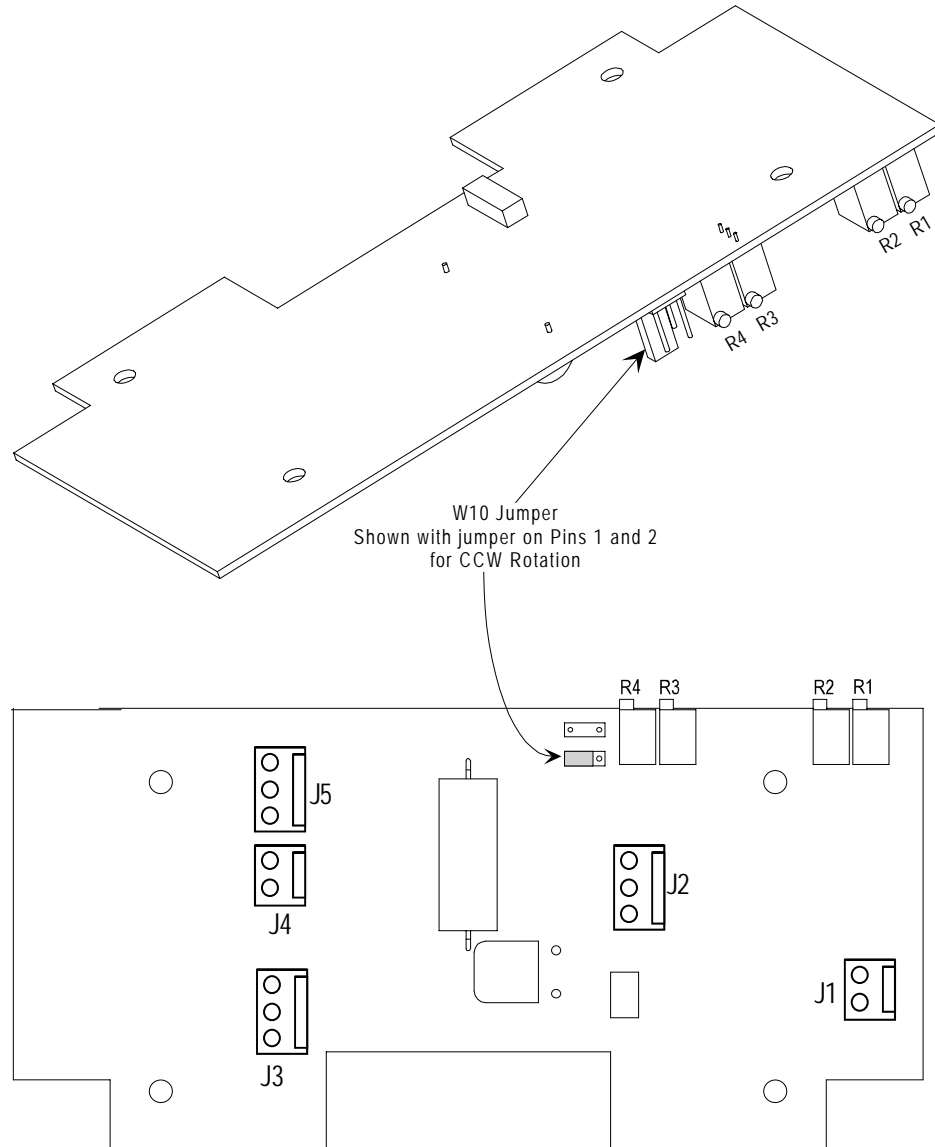

Figure 4-6 0/4-20 mA PWA Output Board
5. If the reading is incorrect, adjust R2 (see Figure 4-6) until the reading is in line.
8. If the reading is incorrect, adjust R1 (see Figure 4-6) until the reading comes into line.
13. If reading is incorrect or actuator is not positioned at 0 % span, adjust R3 (see Figure 4-6) until the reading is in line, and actuator is at 0 % position.
15. If the reading is incorrect or position is not at 100 %, adjust R4 (see Figure 4-6) until the reading is in line, and actuator is at 100 % position.
6. If the reading is incorrect, adjust R3 (see Figure 4-6) until the reading is within tolerance.
9. If the reading is incorrect adjust R4 (see Figure 4-6) until the reading comes into line.
6. If the reading is incorrect, adjust R3 (see Figure 4-6) until reading is within tolerance.
9. If the reading is incorrect, adjust R4 (see Figure 4-6) until reading is within tolerance.